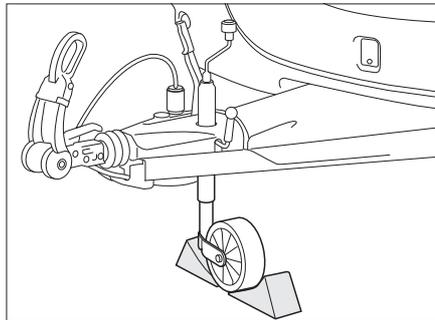

Fig. 186 Securing support wheel
- Place the support wheel diagonal to the direction of travel and secure with suitable tools (Fig. 186).